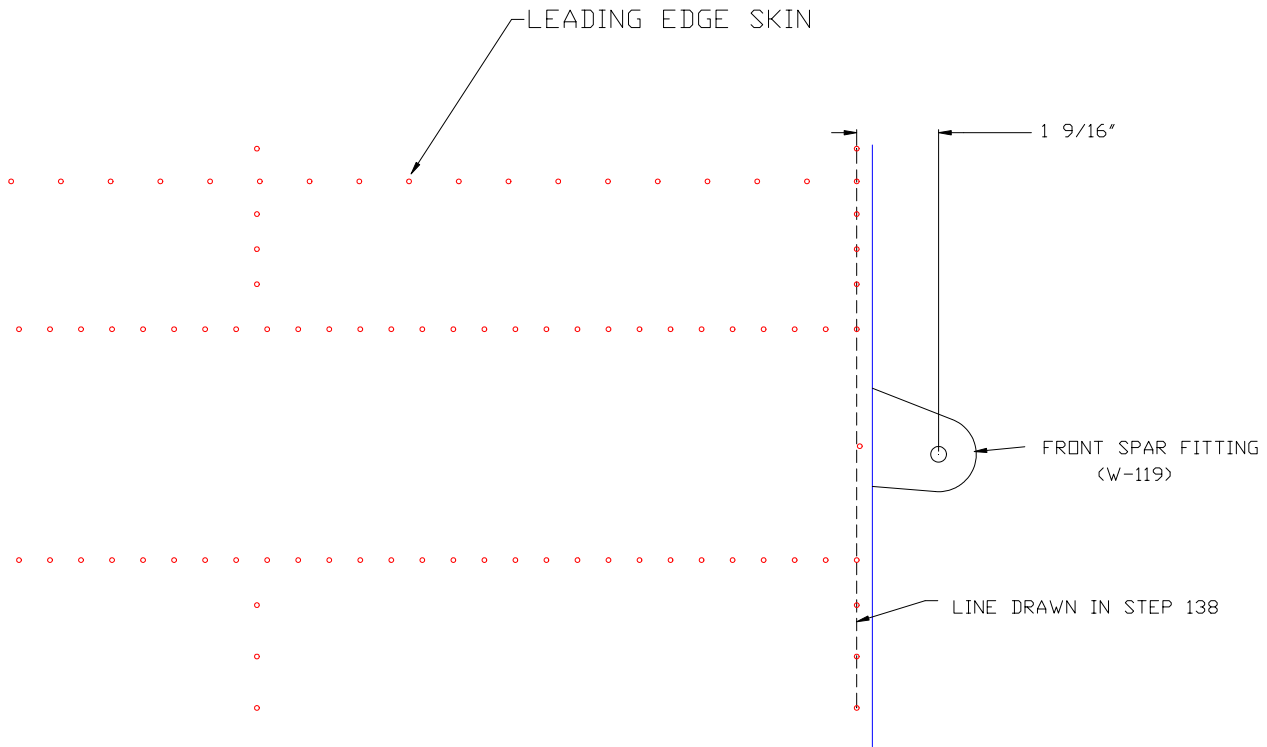

Figure 8.16.5
- 7) On the Leading Edge Skin draw a line connecting the Rib rivet holes on the nose radius. Figure 8.16.5.
- 9) Standing in front of the Wing ensure the distance between the line drawn on the Leading Edge Skin earlier and the Front Spar Attach holes is 1 9/16". Figure 8.16.5.